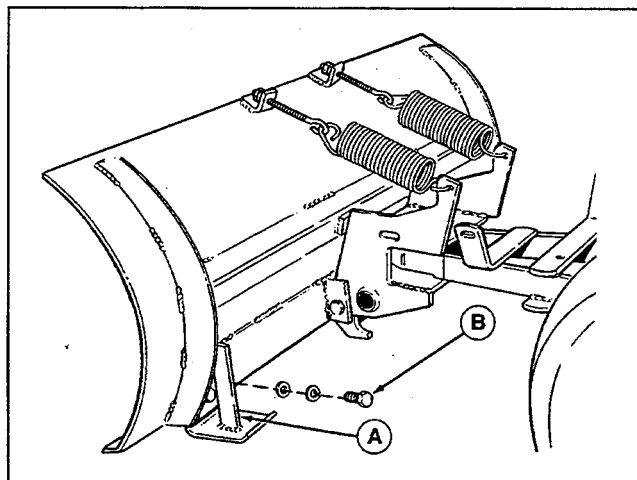

Figure 18.
Slotted holes are provided to permit adjustment of the shoe assemblies for raising and lowering the blade to various working heights (see Figure 18).
To adjust the skid, raise the blade off the ground and block with a piece of wood. Loosen the bolts (B, Figure 18) and move the skid shoes (A) up or down to desired height. Tighten the bolts securely.